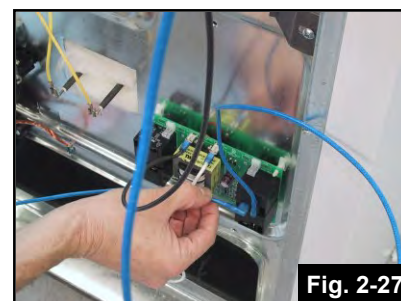

Fig. 2-27
5. Connect the other end of the BLUE relay extension wire to the other terminal of the **upper-right relay** of the Safe-T-element® Controller. (Fig. 2-27)